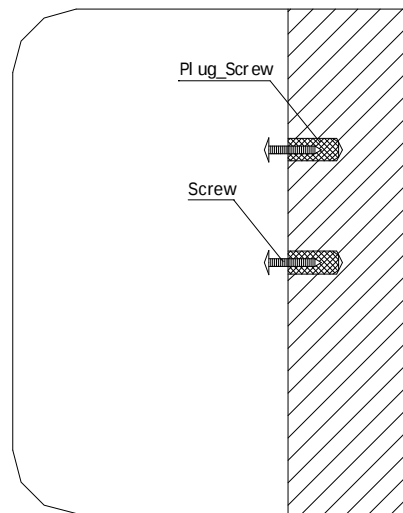

Fig. 2
4. Insert wall (screw) plugs into the three holes and fasten the three screws into the holes. (Fig. 2)